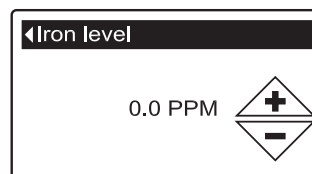

FIG. 38
5. Press the SELECT (O) button to display the Iron level screen (See Figure 38).